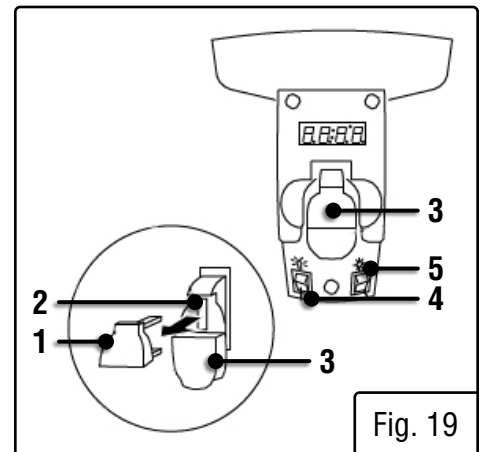

Fig. 19
DRILL PRESS ON / OFF SWITCH (FIG. 19)
1. To turn the drill press ON, insert the yellow safety key (Fig. 19 - 1) into the switch housing (Fig. 19 - 2). As a safety feature, the switch cannot be turned ON without the safety key.
4. To lock the switch in the OFF position, remove the safety key (Fig. 19 - 1) from the switch. Store the safety key in a safe place away from the reach of children.
LIGHT & LASER LINE ON/OFF SWITCHES (FIG. 19)
The light switch (Fig. 19 - 3) is located on the lamp cover. The laser switch (Fig. 19 - 4) is located below the ON/OFF switch on the right.